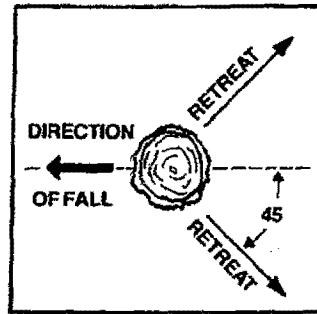

Figure 24
- h. **Plan a clear retreat path to the rear and diagonal to the line of fall.** Figure 24.